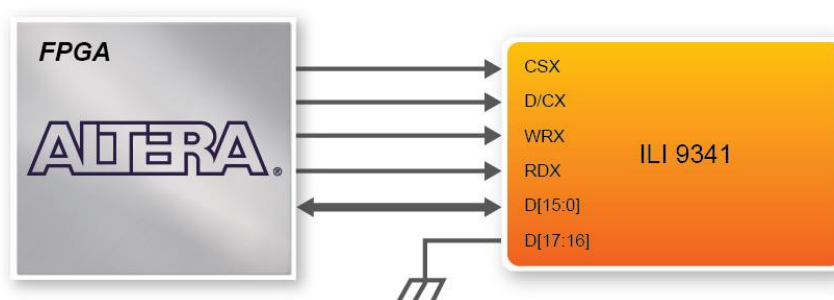

Figure 3-2 Signals of LCD driver connected to FPGA
The LCD features 240(H) x 320(V) pixel resolution. The ILI9341 LCD driver is used to drive the LCD display. The 65K-Color, RGB 5-6-5 bits input data based on 8080-system 16-bit parallel bus interface of ILI9341 is used on the LT24. For further information, please refer to the section 7.6.5 “16-bit Parallel MCU Interface” of ILI9341 datasheet in the LT24 System CD. **Figure 3-2** shows the signals connected between the ILI9341 and the FPGA.